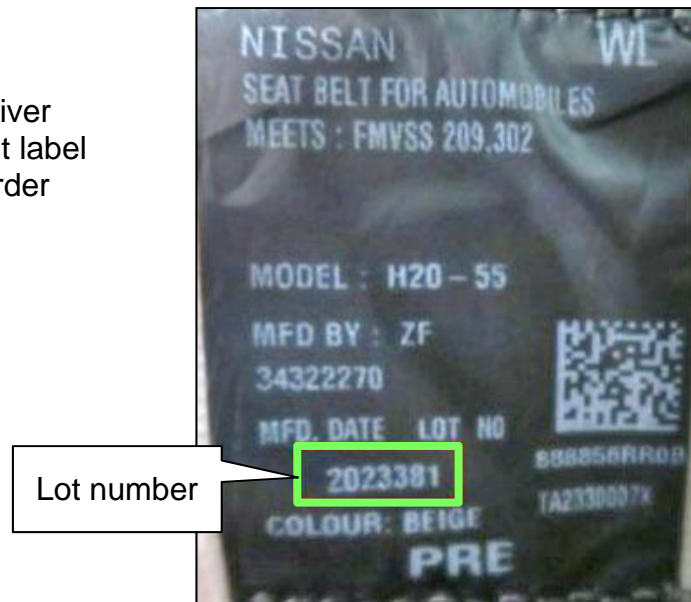

Figure 3
4. Locate the lot number on the Driver (LH) side rear outboard seat belt label and document it on the repair order (Figure 3).